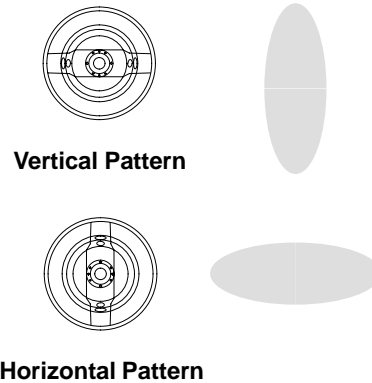

Fig. 9
2. Make sure the system voltage is discharged. Loosen the air cap retaining nut, and rotate the air cap for a vertical or horizontal spray pattern. See Fig. 9. Then tighten the retaining nut until the air cap is held firmly in place; you should not be able to rotate the air cap horns by hand.